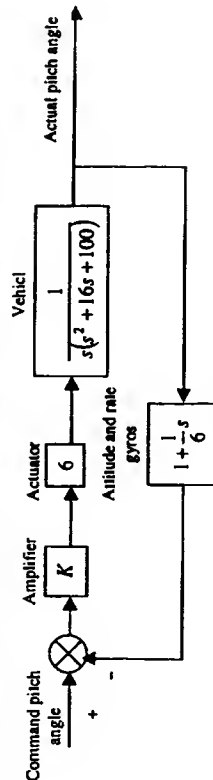

Fig. 2.
2. The pitch attitude control system for a booster rocket containing attitude and rate gyros is shown in Fig. 2. Sketch the root locus and determine the maximum value of K that would permit stable operation.